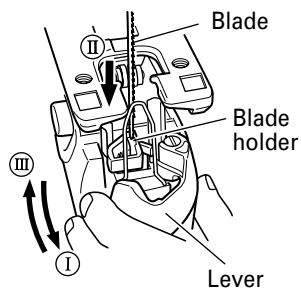

Fig. 6
- (1) Open the lever up to the stop. (Fig. 6-arrow I)
- (2) Remove fitted blade.
- (3) Insert new blade up to the stop in the blade holder. (Fig. 6-arrow II)
- (4) Close the lever. (Fig. 6-arrow III)